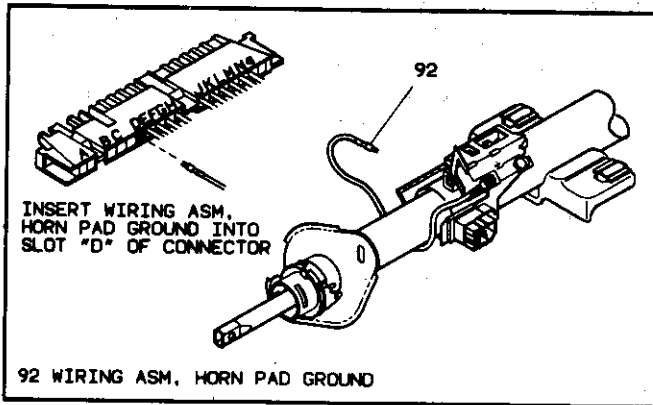

Figure 28 - Installing Horn Pad Ground Wire Asm
16. Horn pad ground wire (92). (See figure 28.)
- Install ground wire connector to mounting stud (82).
17. Screw (78) and nut (79).
- 2. Washer head screw (78).
- 3. Hexagon nut (79).
- 4. Horn pad ground wiring assembly (92) from dimmer and ignition switch mounting stud (82).
- Wiring assembly (92) from slot "D" of turn signal switch connector body, if necessary (figure 28).
- 5. Cable bracket (81).
- 6. Dimmer switch assembly (83).
- Bulkhead wire harness connector from dimmer switch assembly (83).
1. Horn pad ground wiring assembly (92) to slot "D" of turn signal switch connector body if removal was necessary (figure 28).
- Bulkhead wire harness connector to dimmer switch assembly (83).
2. Dimmer switch assembly (83).
3. Cable bracket (81).
4. Horn pad ground wiring assembly (92).
5. Hex nut (79) and washer head screw (78).
- 4. Horn pad ground wiring assembly (92) from dimmer and ignition switch mounting stud.
- 7. Dimmer and ignition switch mounting stud (82).
- 8. Ignition switch assembly (80) from jacket assembly (72).
- Bulkhead wire harness connector from ignition switch assembly (80).